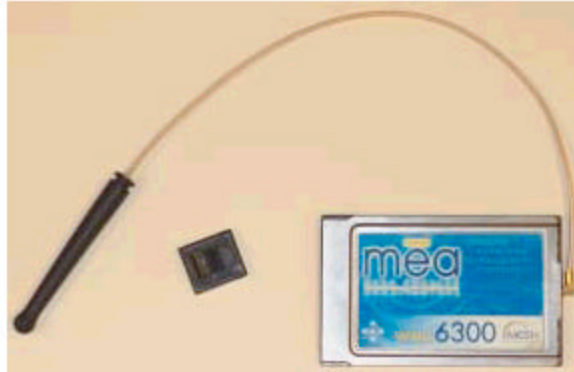

Figure 9. Attach Antenna to the WMC6300
1. Locate the Antenna and insert the connector into the WMC6300 antenna port as shown in Figure 9. **Note:** The connector will "snap" into place when fully inserted.